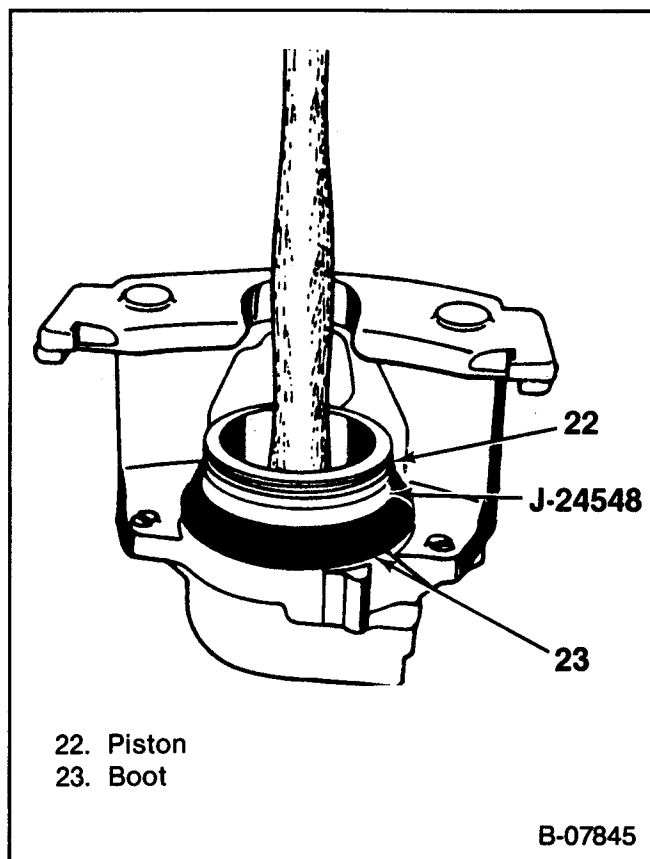

Figure 53—Installing The Piston
1. Piston seal (21).
2. Boot (23) on tool J-24548.
4. Piston (22) inside tool J-24548 (figure 53).
6. Bleeder valve (20).